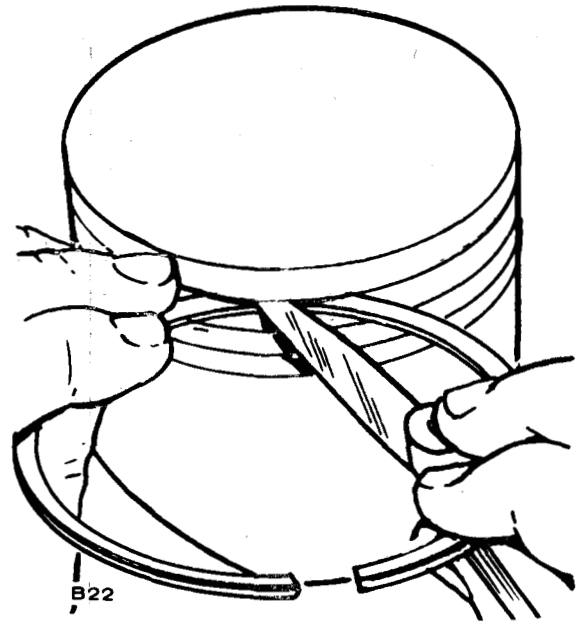

FIGURE 15. CHECKING RING SIDE CLEARANCE
1. Inspect the pistons for fractures at the ring lands, skirts, and pin bosses. Check for wear at the ring lands using a new ring and feeler gauge (Figure 15). Replace the piston when the side clearance of the top compression ring reaches 0.008 inch (0.20 mm).